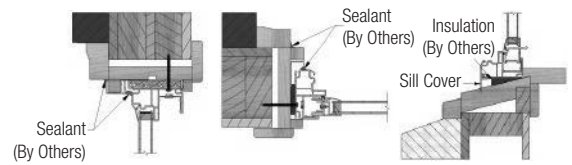

FIG. 13
- A) Install the head expander on the top of the window. Tilt top of replacement window toward interior. (Fig. 13)